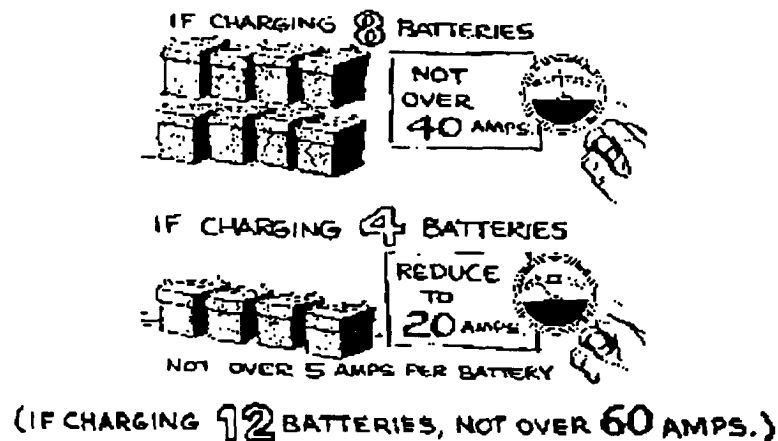

Figure 3-21
- (6) Adjust charging amperage. Use the ammeter charging rate control knob to adjust ammeter amperage as near as possible to 5 amperes for each battery on charge (Figure 3-21).